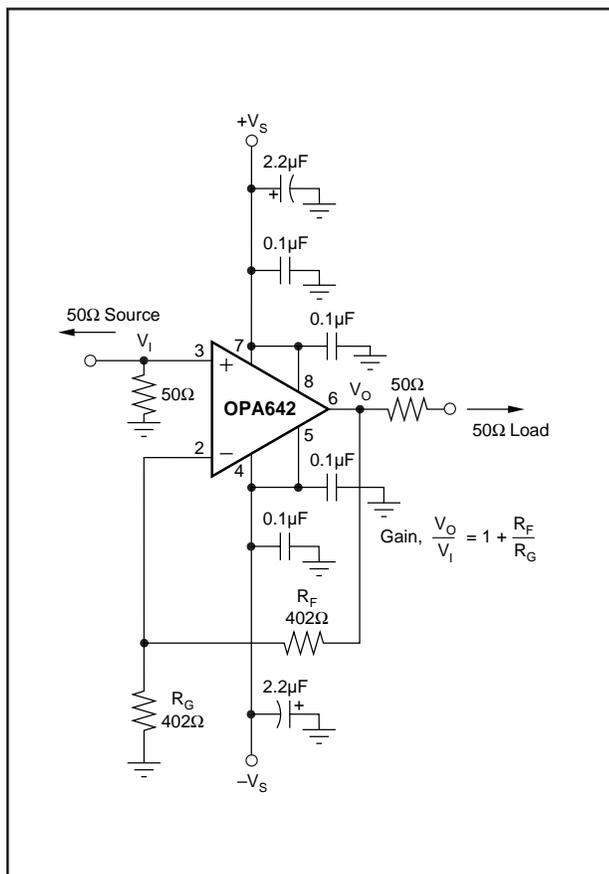
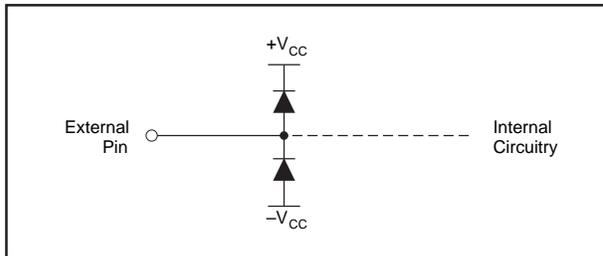

FIGURE 1. Gain of +2, High Frequency Application and Characterization Circuit [P or U Package].
FIGURE 9. Internal ESD Protection.
The OPA642's combination of speed and dynamic range is easily achieved in a wide variety of application circuits, providing that simple principles of good design practice are observed. For example, good power supply decoupling, as shown in Figure 1, is essential to achieve the lowest possible harmonic distortion and smooth frequency response. Proper PC board layout and careful component selection will maximize the performance of the OPA642 in all applications, as discussed in the remaining sections of this data sheet.
Figure 1 shows the gain of +2 configuration used as the basis for most of the Typical Performance Curves. Most of the curves were characterized using signal sources with 50Ω driving impedance, and with measurement equipment presenting 50Ω shunt load impedance. In Figure 1, the 50Ω shunt resistor at the  $V_I$  terminal matches the source impedance of the test generator, while the 50Ω series resistor at the  $V_O$  terminal provides a matching resistor for the measurement equipment load. Generally, data sheet specifications refer to the voltage swing at the output pin ( $V_O$  in Figure 1). The 100Ω load from the series and shunt matching resistances, combined with the 804Ω total feedback network load, presents the OPA642 with an effective load of approximately 90Ω.
To achieve the lowest possible distortion in the 8-pin SO-8 or DIP package, the addition of 0.1μF decoupling capacitors on pins 5 and 8 is required. These are shown in Figure 1. Although pins 5 and 8 are internally connected to pins 4 and 7 respectively (the standard supply pins for 8-pin op amps), the additional capacitors help to decouple the package lead inductances and improve second harmonic suppression at 5MHz by approximately 4dB. The much shorter bond wires and supply leads of the SOT23-5 package give the best distortion performance while requiring only two power supply connections.
is typically set up for a voltage gain of +2, compensating for the 6dB attenuation of the voltage divider formed by the series and shunt 75Ω resistors at either end of the cable. The circuit of Figure 1 applies to this requirement if all references to 50Ω resistors are replaced by 75Ω values. Often, the amplifier gain is further increased to 2.2, which recovers the additional DC loss of a typical long cable run. This change would require the gain resistor ( $R_G$ ) in Figure 1 to be reduced from 402Ω to 335Ω. In either case, both the gain flatness and the differential gain/phase performance of the OPA642 will provide exceptional results in video distribution applications. Differential Gain and Phase measure the change in overall small-signal gain and phase for the color subcarrier frequency (3.58MHz in NTSC systems) vs changes in the large-signal output level (which represents luminance information in a composite video signal). The OPA642, with the typical 150Ω load of a single matched video cable, shows less than 0.01%/0.01° differential gain/phase errors over the standard luminance range for a positive video (negative sync) signal. Similar performance would be observed for negative video signals. In practice, similar performance is achieved even with two video loads due to the linear high-frequency output impedance of the OPA642.
A good rule of thumb is to target the parallel combination of  $R_F$  and  $R_G$  (Figure 1) to be less than about 200Ω. The combined impedance  $R_F \parallel R_G$  interacts with the inverting input capacitance, placing an additional pole in the feedback network and thus a zero in the forward response. Assuming a 2pF total parasitic on the inverting node, holding  $R_F \parallel R_G < 200\Omega$  will keep this pole above 400MHz. By itself, this constraint implies that the feedback resistor  $R_F$  can increase to several kΩ at high gains. This is acceptable as long as the pole formed by  $R_F$  and any parasitic capacitance appearing in parallel is kept out of the frequency range of interest.
The OPA642 can provide excellent DC signal accuracy due to its high open-loop gain, high common-mode rejection, high power supply rejection, and low input offset voltage and bias current offset errors. The high grade (B) version of any package type provides less than 1mV input offset voltage. To take full advantage of this low input offset voltage, a careful attention to input bias current cancellation is also required. The high speed input stage for the OPA642 has a relatively high input bias current (25μA typ into the pins) but with a very close match between the two input currents—typically 100nA input offset current. The total output offset voltage may be considerably reduced by matching the source impedances looking out of the two inputs. For example, one way to add bias current cancellation to the circuit of Figure 1 would be to insert a 175Ω series resistor into the non-inverting input from the 50Ω terminating resistor. When the 50Ω source resistor is DC coupled, this will increase the source impedance for the non-inverting input bias current to 200Ω. Since this is now equal to the impedance looking out of the inverting input ( $R_F \parallel R_G$ ), the circuit will cancel the gains for the bias currents to the output leaving only the offset current times the feedback resistor as a residual DC error term at the output. Using a 402Ω feedback resistor, this output error will now be less than  $3\mu\text{A} \cdot 402\Omega = 1.2\text{mV}$ .
As a worst case example, compute the maximum  $T_J$  using an OPA642N (SOT23-5 package) in the circuit of Figure 1 operating at the maximum specified ambient temperature of +85°C.  $P_D = 10V \cdot 26mA + 5^2 / (4 \cdot (100\Omega \parallel 804\Omega)) = 330mW$ . Maximum  $T_J = +85^\circ C + 0.33W \cdot 150^\circ C/W = 135^\circ C$ .
The OPA642 is built using a very high speed complementary bipolar process. The internal junction breakdown voltages are relatively low due to these very small geometry devices. These breakdowns are reflected in the Absolute Maximum Rating table. All device pins are protected with internal ESD protection diodes to the power supplies as shown in Figure 9.
High input overdrive signals can also cause significant differential voltage between the + and - inputs. Where this voltage can exceed the maximum rated voltage of  $\pm 1.2V$ , external Schottky protection diodes should be added across the two inputs. Again, the capacitance added by these diodes can degrade the noise and AC performance and should be used only where necessary. Figure 9 shows a fully featured input protection circuit for the OPA642. This is the circuit of Figure 1 with additional limiting resistors into the inputs and Schottky clamp diodes across the inputs. These resistor values have been selected to limit the degradation in noise and frequency response, achieve DC bias current cancellation, and limit the current that will flow under overdrive conditions.